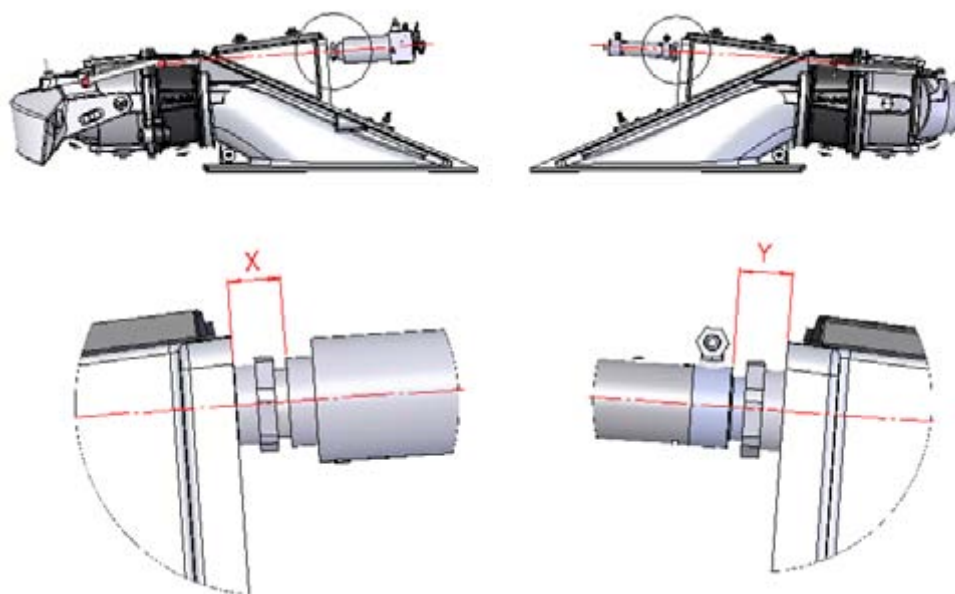

Figure 27. Dimensions of the hydraulic cylinders
4. Push the cylinder into place and screw it in until the correct distances (X= \sim 31 mm and Y= \sim 29 mm) are reached (figure 27).